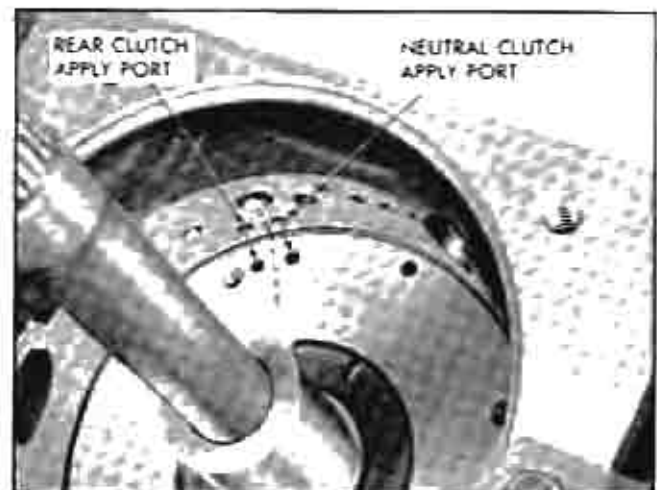

Fig. 150 Alignment of Case Center Support in Transmission Case
c. With parts aligned, slide assembly into case, engaging neutral clutch drum key with slot in clutch drum. Parts must be aligned so that imaginary center lines through the neutral clutch apply and rear clutch apply ports in case center support intersect like ports in the transmission case (Fig. 150).